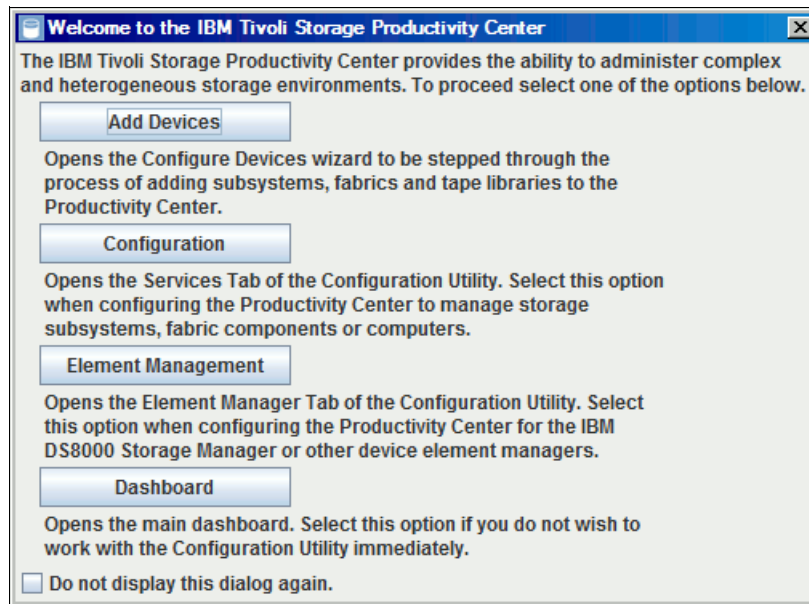

Figure 12-5 Welcome to the IBM Tivoli Storage Productivity Center Tasks panel
Figure 12-5 shows the Welcome to the IBM Tivoli Storage Productivity Center panel. This panel provides links to commonly used Tivoli Storage Productivity Center tasks.
1. From the Welcome to the IBM Tivoli Storage Productivity Center window (Figure 12-5 on page 288), click **Add Devices**.